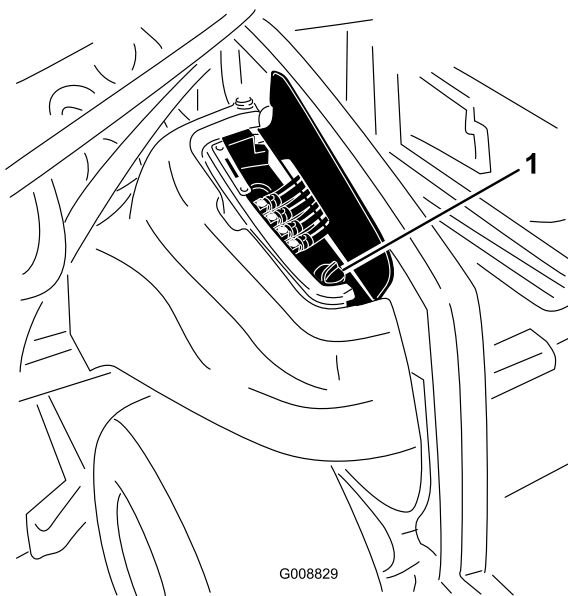

Figure 87
2. On the right side of the machine, raise the access cover to expose the hydraulic-tank cap (Figure 87).
3. Clean the area around the filler neck and cap of the hydraulic tank (Figure 87).